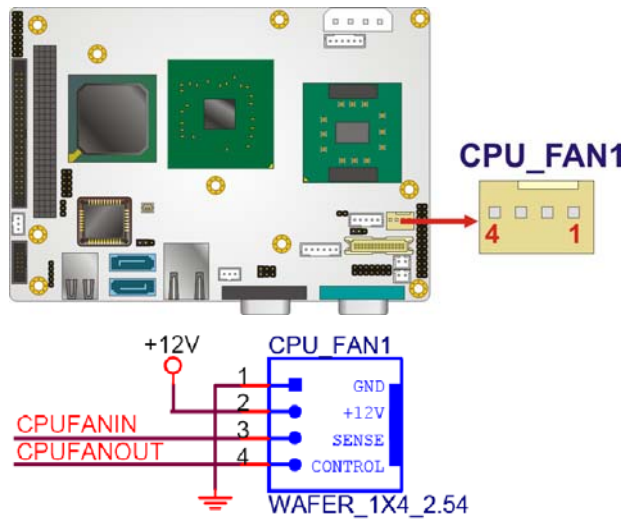

Figure 4-7: CPU Fan Connector Location
- CN Location:** See **Figure 4-7**